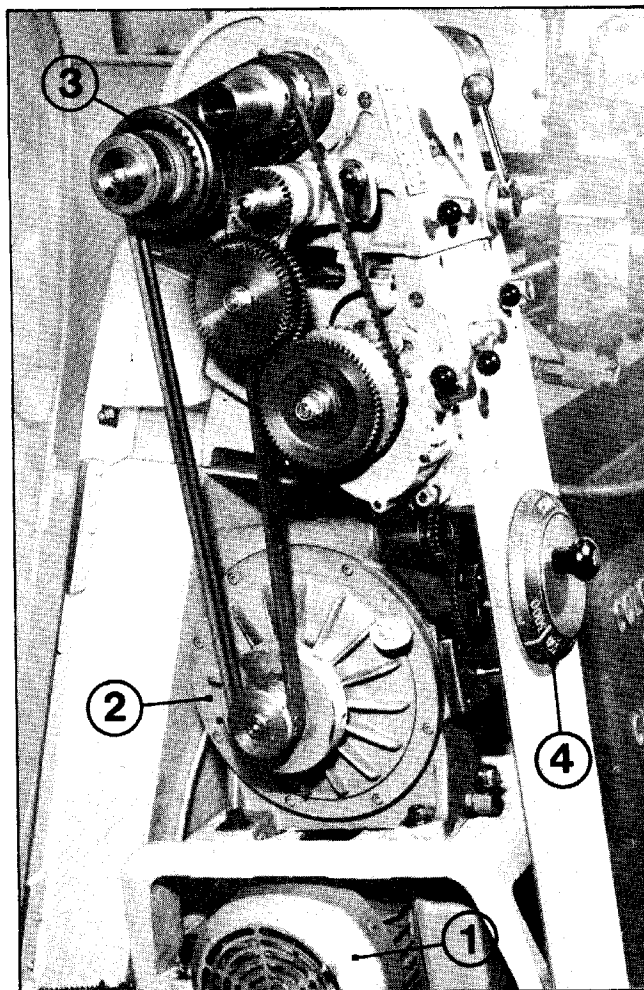

Fig. 18
The single-speed motor (1) Fig. 18 is coupled to a variable-speed unit (2) by a toothed rubber timing belt, the motor being mounted on the underside of the mounting bracket to form a compact drive unit.